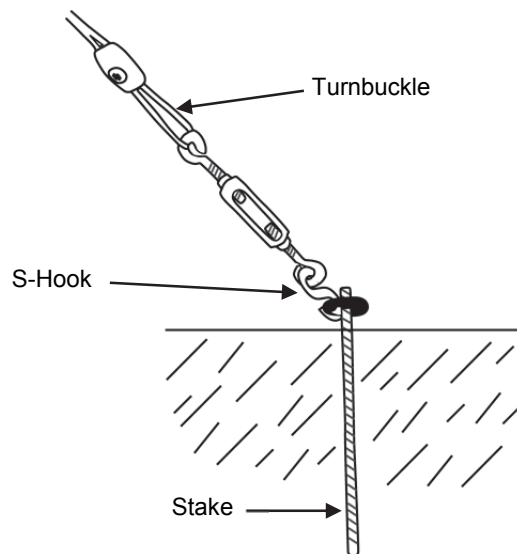
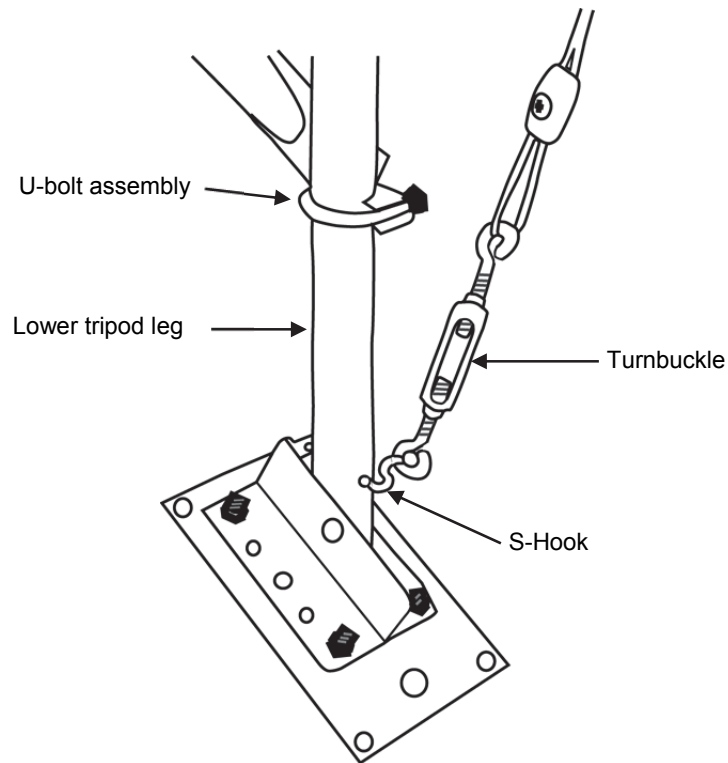

Figure 36: Guying to 1/2 inch Stakes
Figure 37: Guying to 3 Meter tripod feet
3. Hook one "S" hook and one turnbuckle onto the corresponding stake (see Figure 36) or leg (see Figure 37).
4. Cut the guy cable so that it can be put through the loose end of the turnbuckle and the wire clamp (see Figure 36 if using the 2 meter tripod; see Figure 37 if using the 3 meter tripod). Make sure the turnbuckle is extended as shown in the figures before feeding the cable through.